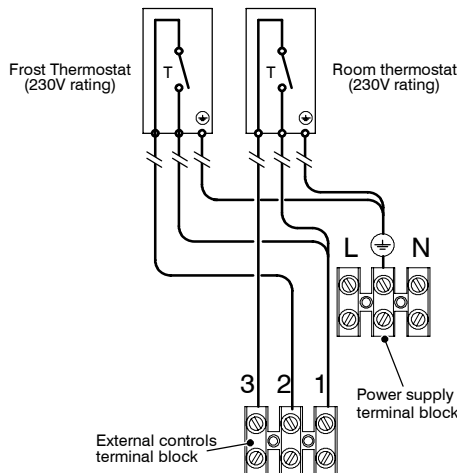
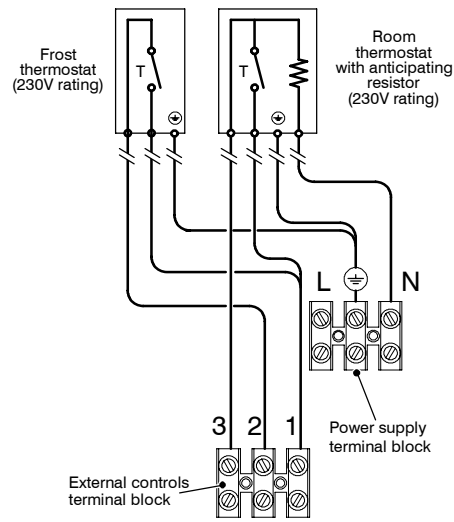

Fig. 6.16
Fig. 6.17
- 10 Connect the frost thermostat between terminals 1 and 2 as shown in Fig. 6.16 or Fig. 6.17.